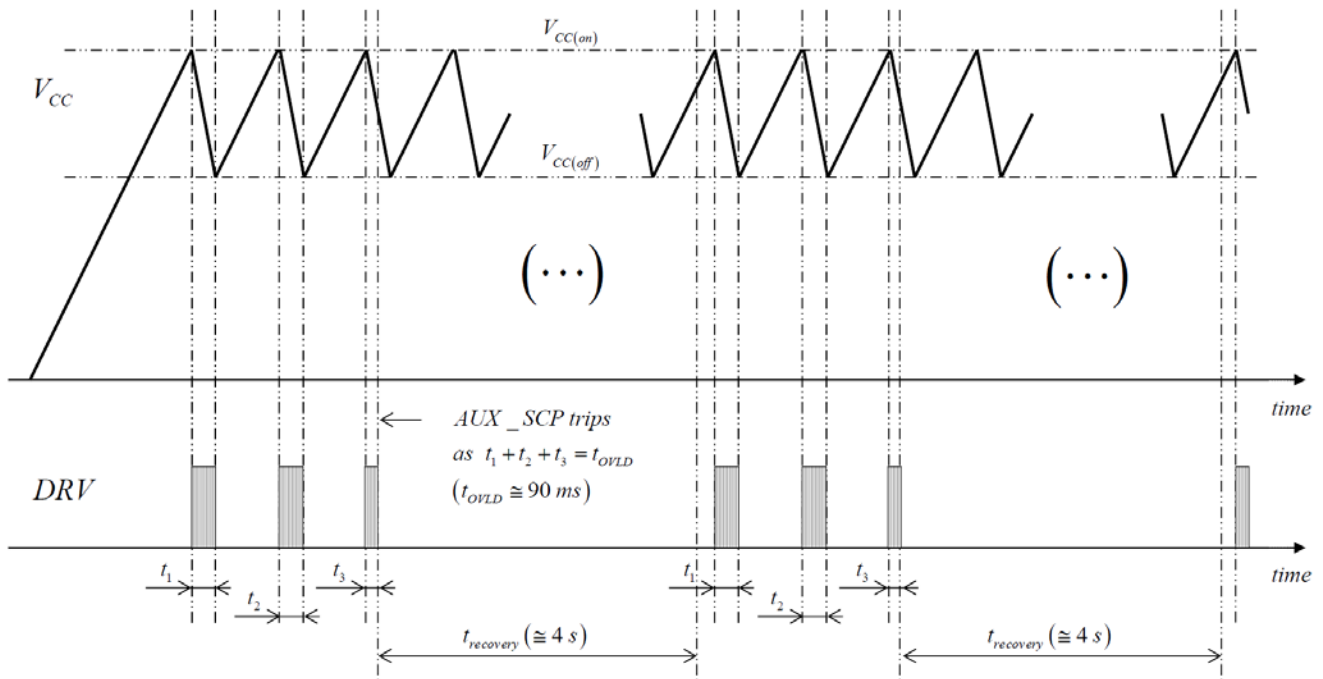

Figure 5. Start-up Sequence in a Load Short-circuit Situation
- If the load is shorted, the circuit will operate in hiccup mode with V_{CC} oscillating between $V_{CC(off)}$ and $V_{CC(on)}$ until the Auxiliary Short Circuit Protection, AUX_SCP, forces the 4 s auto-recovery delay to reduce the operation duty-ratio (AUX_SCP trips if the ZCD pin voltage does not exceed 1 V within a 90 ms active period of time thus indicating a short to ground of the ZCD pin or an excessive load preventing the output voltage from rising). Figure 5 illustrates a start-up sequence with the output shorted to ground.